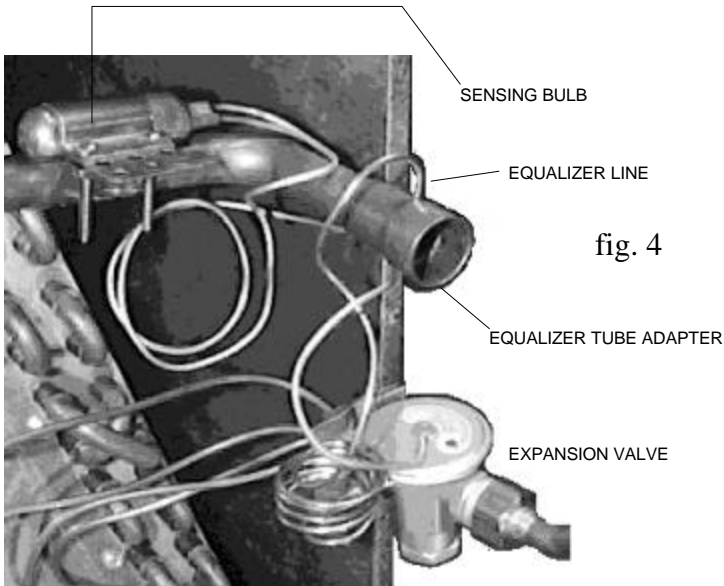

fig. 4
Step 6. Tighten valve to body using two (2) wrenches. Apply 20 lbs. torque. Do Not Over Tighten.
Step 9. Mount the valve sensing bulb on the suction manifold of the coil using the mounting strap as shown in fig.4. Make certain the strap is tight. Re install the front panel of the coil. The sensing bulb may be installed on a horizontal run of the suction line on the outside of the cabinet, but it must be insulated to prevent ambient air affecting it's operation.